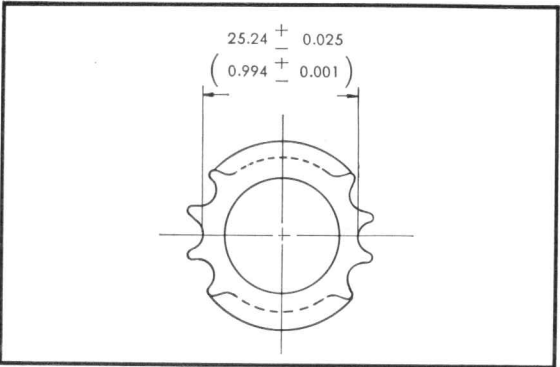

Figure 3-76. Timing sprocket teeth root contour
- (4) Left crankshaft sprocket root diameter. (Fig. 3.76)